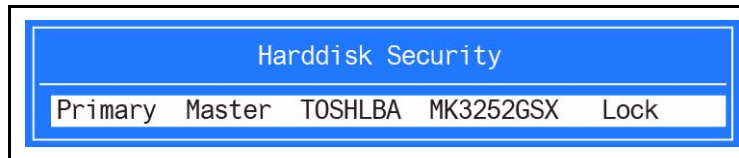

Figure 2-16. Password Error Status
If the HDD password is incorrectly entered three times, an error is generated. (Figure 2-16)
1. From Password Error Status dialog shown in Figure 2-16, press **Enter** to continue.